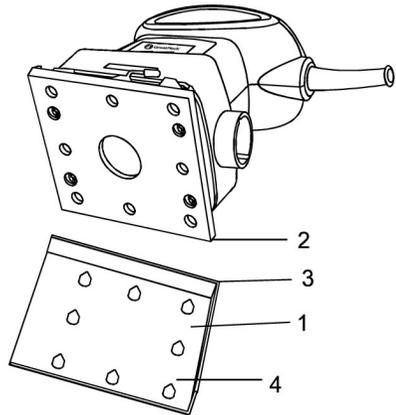

Fig. 5
2. Place the hole punch (1) on a sturdy flat surface (Fig. 5).
3. Align the corner of the sanding pad (2) with the corner of the hole punch (3). This will ensure the holes are punched in the correct location.
4. When sanding pad is correctly aligned on the hole punch, press the sanding pad firmly onto the hole punch. **NOTE:** The sharp pegs (4) in the hole punch will pierce the sandpaper in the correct location.